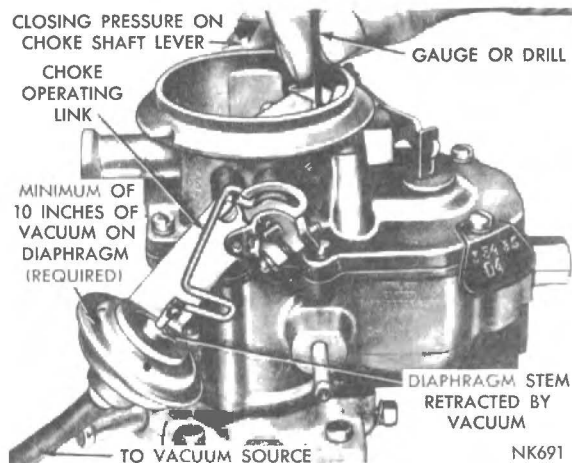

Fig. 13 Measuring the Choke Vacuum Kick Setting
(1) With the engine NOT running, open the throttle valves far enough to allow the choke valve to be moved to the closed position.
(2) Disconnect the vacuum hose from the diaphragm and connect the hose from the vacuum supply as shown in Fig. 13. (A minimum of 10 inches of mercury will be required).
(7) Install the choke operating link and recheck the choke valve opening, using a gauge or drill. Refer to (Fig. 13).